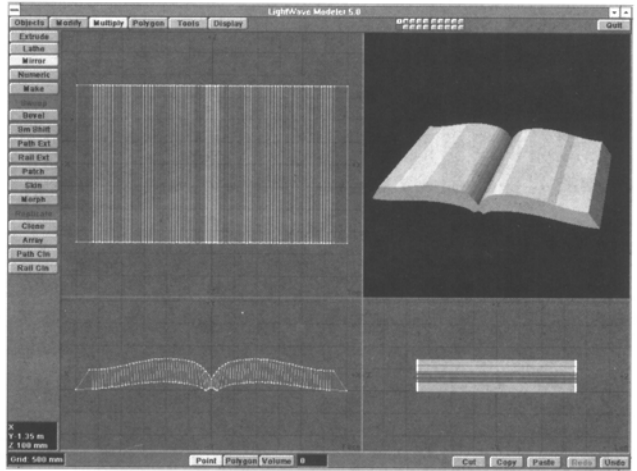

Figure 3
•Lastly, drag the five left top points down to create a stronger curve near the center of the book. Your final curved book page should look like figure 3. Save the object as BOOK\_2.LWO.